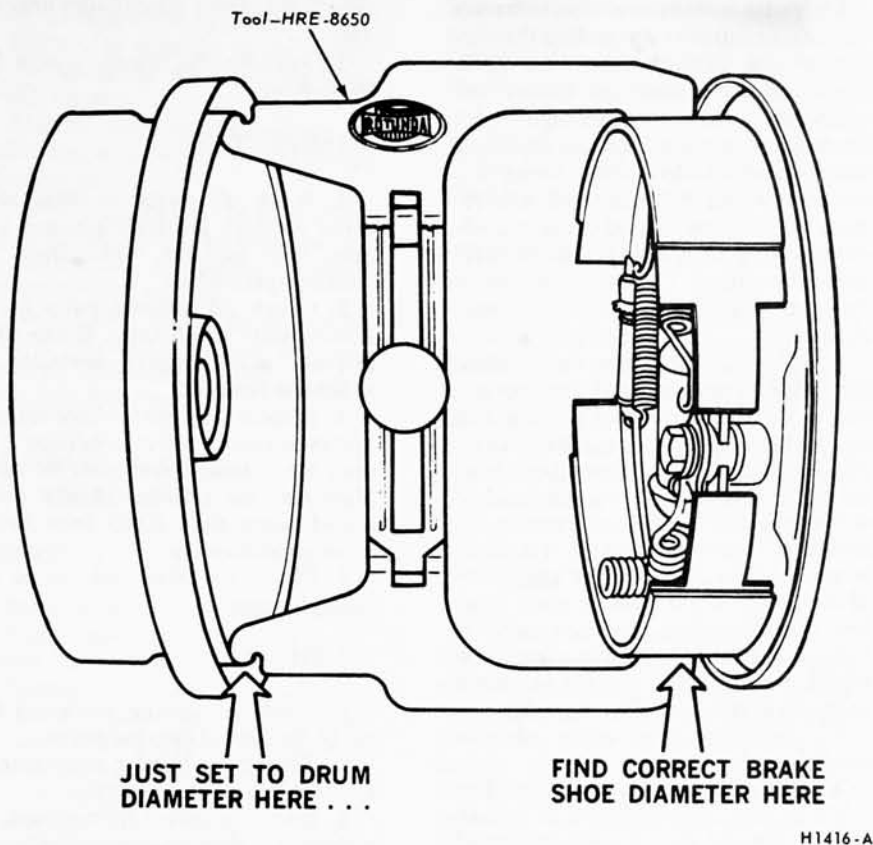

FIG. 11—Adjusting Brake Shoes, Using Tool HRE—8650
1. Using Rotunda Tool HRE 8650, (Fig. 11) determine the inside diameter of the drum braking surface.
2. Reverse the tool as shown in Fig. 11 and adjust the brake shoe diameter to fit the gauge. Hold the automatic adjusting lever out of engagement while rotating the adjustment screw, to prevent burring the screw slots. Make sure the adjusting screw rotates freely. If necessary, lubricate the adjusting screw threads with a thin, uniform coating of CIAZ-19590-B Grease.